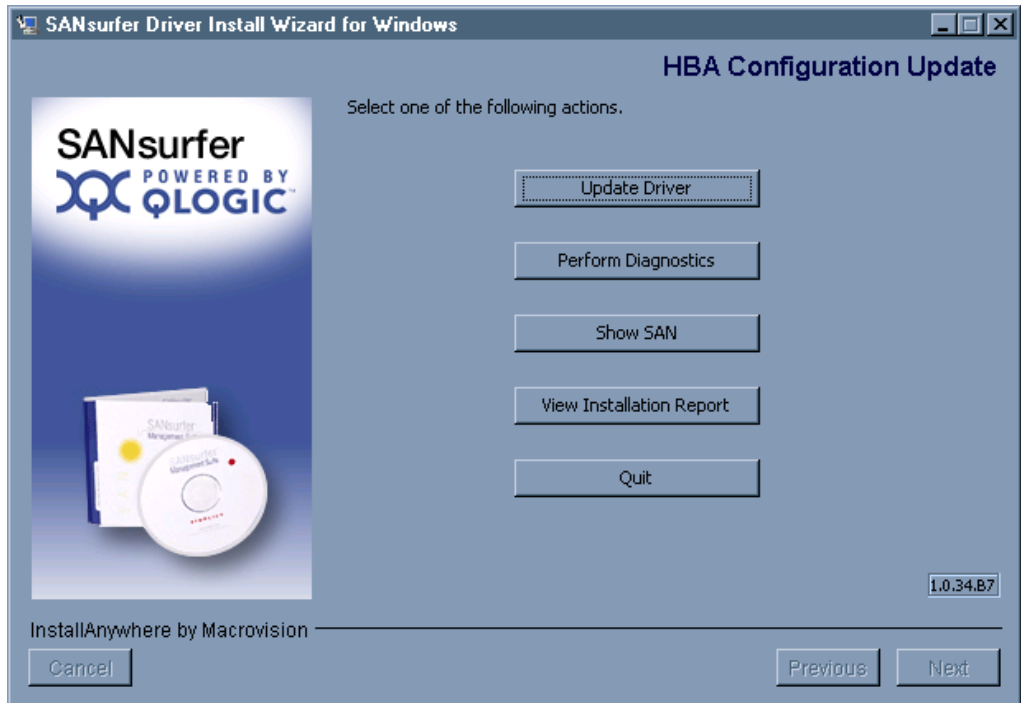
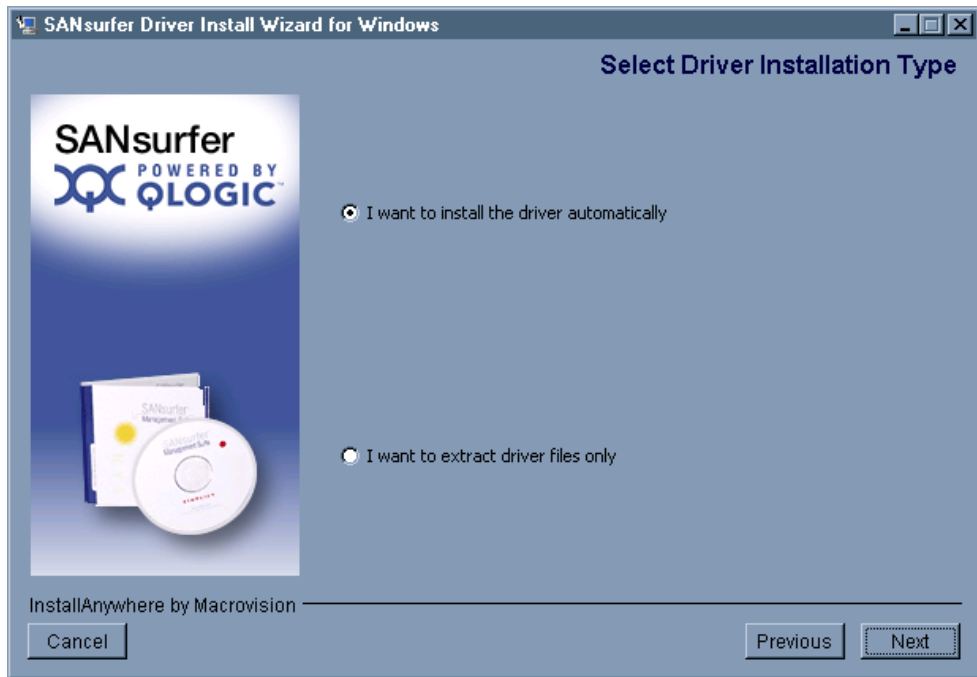

Figure 56 HBA Configuration Update dialog box
Figure 57 Select Driver Installation Type dialog box
2. After the wizard initializes, you will be given several options, as shown in Figure 56. Click **Update Driver** to begin the driver installation.
The **Select Driver Installation type** dialog box appears, as shown in Figure 57 on page 79.
Note: If you are upgrading your adapter driver, you will be taken to the **HBA Configuration Update** screen shown in Figure 56 on page 78. At this point, click the **Update Driver** button. You will be taken to the **Select Driver Installation Type** screen shown in Figure 57 on page 79. Select the driver you wish to install, and proceed with the procedure at Step 4 on page 81.